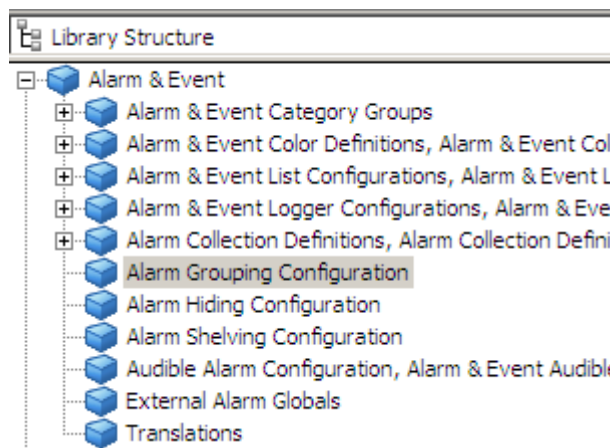

Figure 51. Alarm Grouping Configuration - Library Structure
1. Navigate to the **Library Structure > Alarm & Event > Alarm Grouping Configuration** (refer to Figure 51).